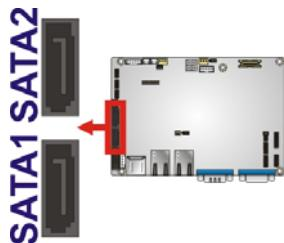

Figure 3-17: SATA Drive Connector Location
**CN Location:** See Figure 3-17